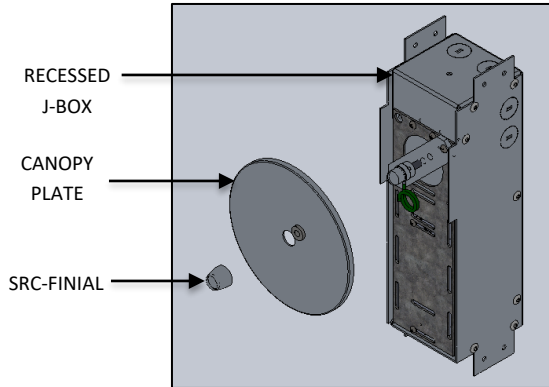

FIG. 5 – FINIAL AND CANOPY DISASSEMBLY
1. Unscrew SRC- FINIAL and remove the CANOPY PLATE out of J-BOX as shown in FIG. 5.